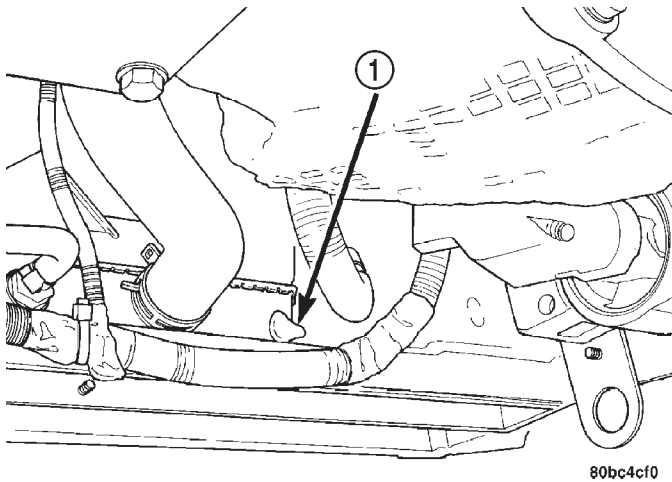

Fig. 18 Cooling System Drain Cock Location
- (1) Shut engine off and turn draincock counter-clockwise to open (Fig. 18).
- (2) The coolant reserve tank should empty first, then remove the pressure cap. (if not, Refer to Testing Cooling System for leaks).